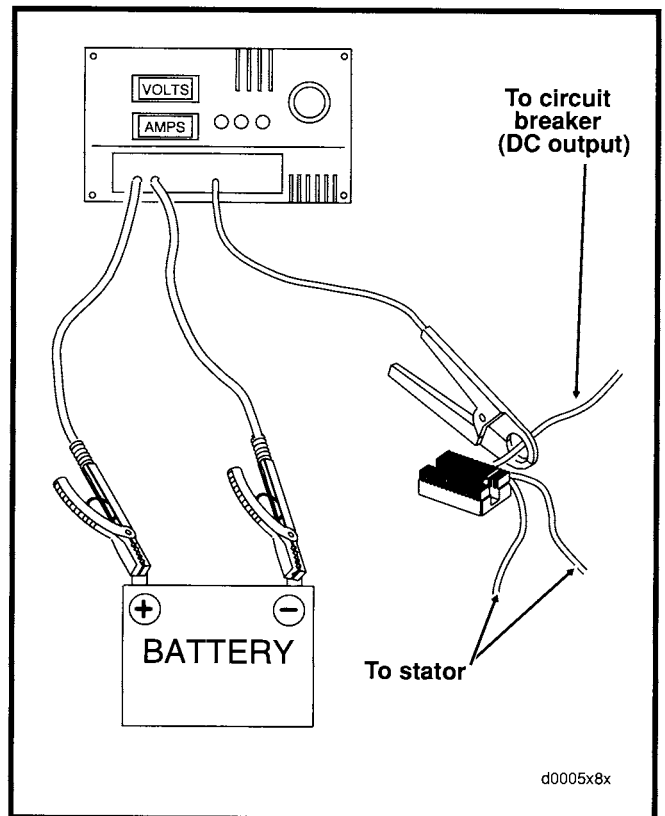

Figure 4. Current and Voltage Output Test
1. Connect load tester negative and positive leads to battery terminals and place load tester induction pickup over positive regulator cable as shown in Figure 4.
See Figure 4. After removing the load, read the load tester voltage meter. Voltage to the battery must not be more than 15 volts. If voltage is higher, regulator is not functioning properly or connections are loose or dirty.